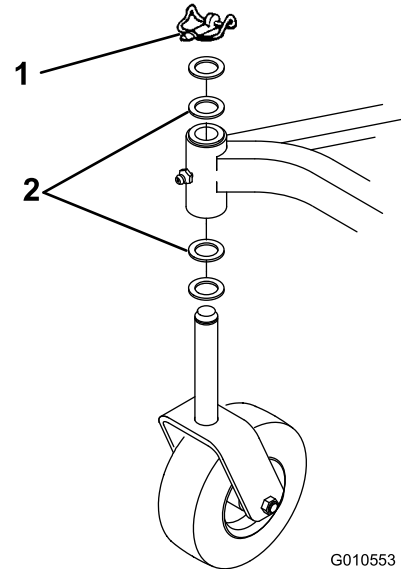

Figure 18
4. Insert a pin punch into the top or bottom of the mounting tube and drive the bushing out of the tube (Figure 18). Also drive the other bushing out of the tube. Clean the inside of the mounting tube to remove any dirt.